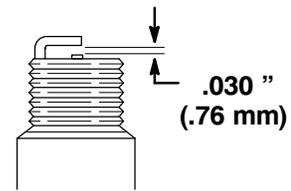

Figure 14
6. Set the air gap between the spark plug electrodes at .030 inch (.76 mm) (Fig. 14).